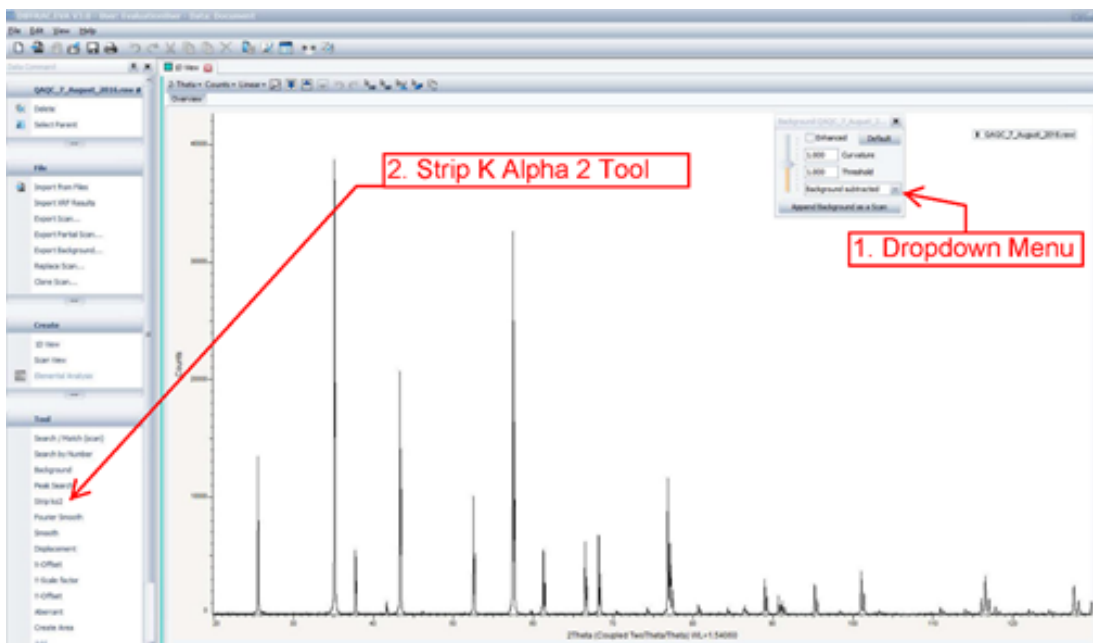

Figure 30: EVA diffractogram with the background subtracted. (1) Dropdown Menu to Append Scan
3. Strip K_2 and Append (Figure 30).